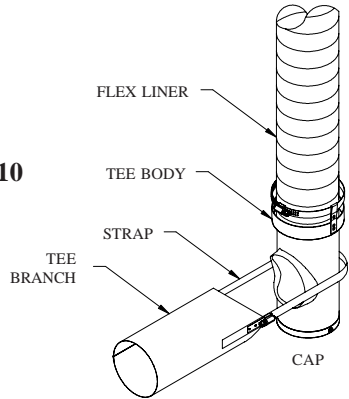

Fig 10
Step 3. When the Tee is in its final location, attach the Branch to the main body of the Tee using the fast connect band provided on the removable Branch. Loosen the fast connect band and position it around the Tee body, and tighten band. (**Figure 10**)